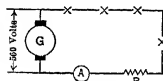

FIG. 52. Ammeter  $A$  indicates the current in the series circuit.
**Prob. 39-2.** In Fig. 52, the ammeter reads 5.4 amperes. Each lamp has a voltage of 90 volts across it.
**Prob. 40-2.** If one lamp in Prob. 39-2, Fig. 52, becomes short-circuited, what will  $R$  have to be made to keep the current down to 5.4 amperes?